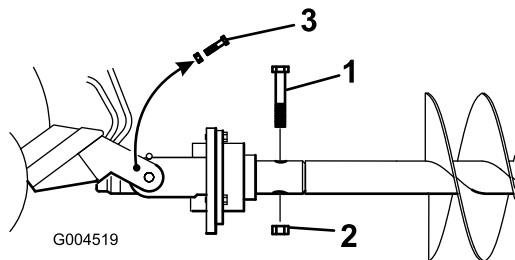

Figure 8
9. Secure the auger to the drive head with a bolt ($7/8 \times 4-1/2$ inch) and nut ($7/8$ inch) (Figure 8).
10. Remove the bolts and nuts from the cradle arms that were installed in steps 1 (if applicable) and 4 (Figure 8).